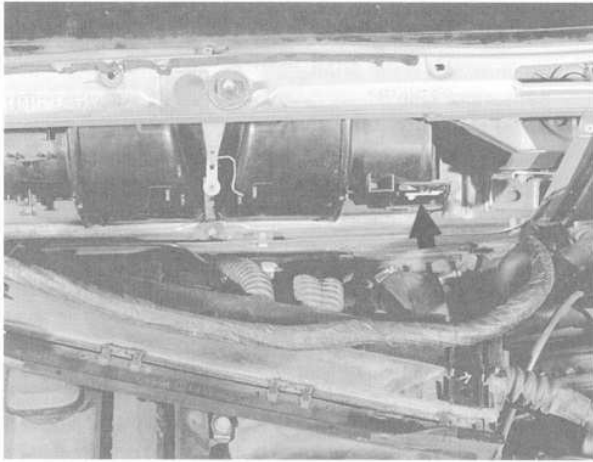

Fig. 6. Air ventilation flap control linkage (arrow).
- Remove small cover from left side of blower motor housing. Disconnect linkage rod from beneath cover. See Fig. 6.